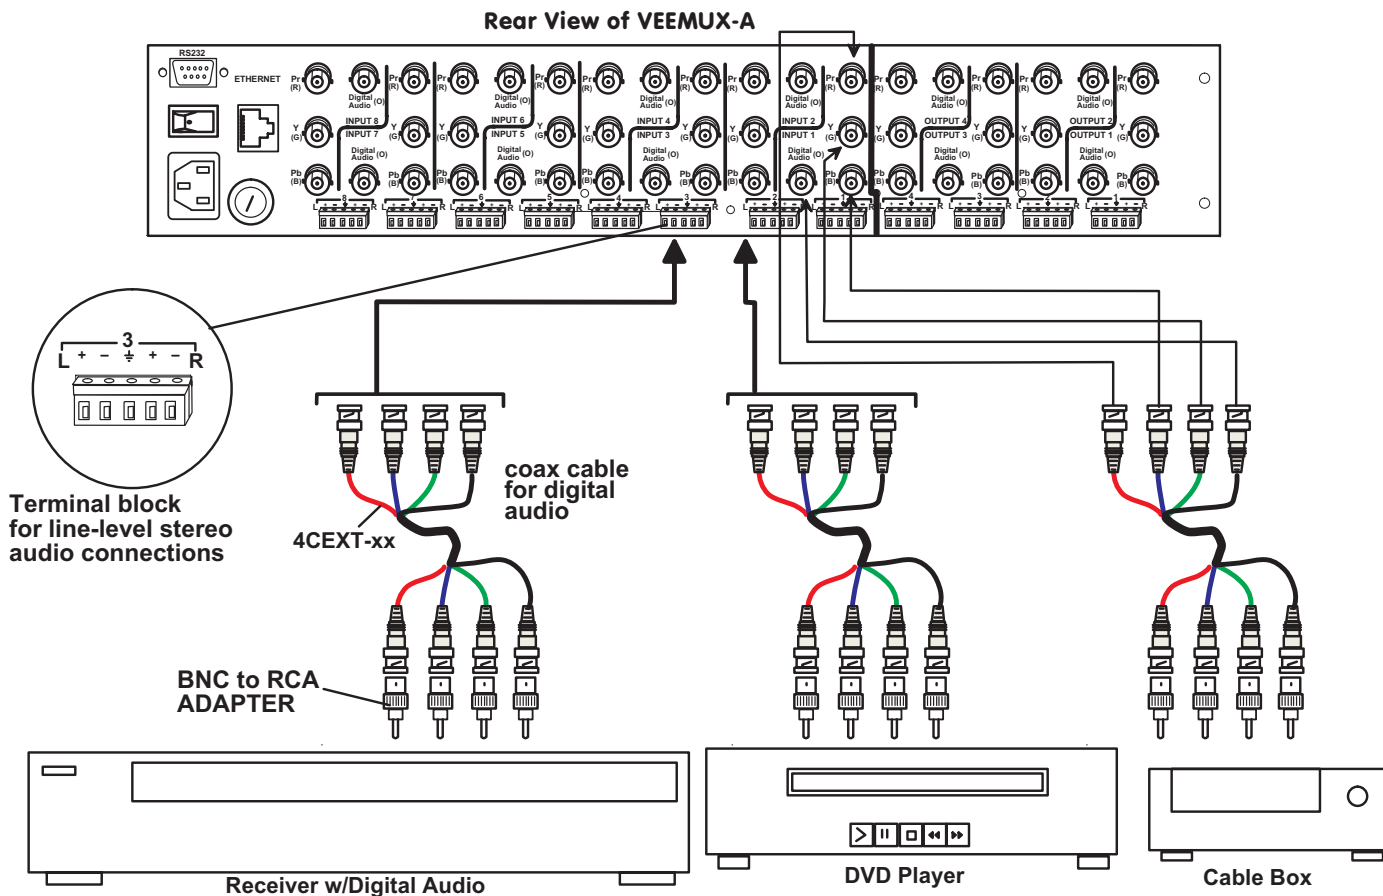
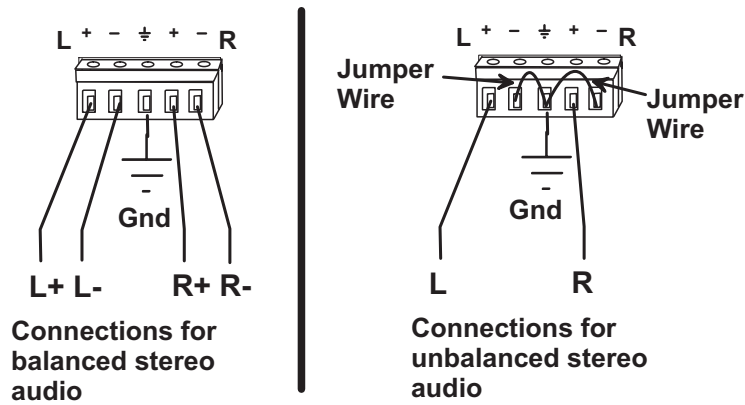

Figure 1- Connect sources to the VEEMUX-A
Figure 2- Stereo audio connection block
2. Connect each video source to the VEEMUX-A using 4CEXT-xx BNC cables. The groups of terminals are labeled INPUT1-8. and colored cables attach to terminals as follows: green (Y), blue (Pb) and red (Pr). If necessary, use BNC to RCA adapters to connect the cables to the video sources (see Fig. 1). If the cables used do not have BNC connectors on them but have RCA connectors instead, use an RCA-to-BNC adapter on each to connect to the VEEMUX-A.
3. Audio connections can either be digital or analog (stereo). A connector marked "DIGITAL" is provided in each INPUT group for digital audio cable connection. A terminal block for the connection of a line-level stereo audio cable is located below each connector group. (See Fig. 1) The VEEMUX-A supports balanced line-level audio signals, as well as unbalanced. Fig. 2 shows the proper cable connection method for each.
2. Connect each digital audio device to a OUTPUT connector labeled "DIGITAL". If the audio device is a stereo type device, connect it an OUTPUT terminal block. Connections to the terminal block should be made as shown in Fig. 2 for devices that are compatible with balanced or unbalanced stereo audio.